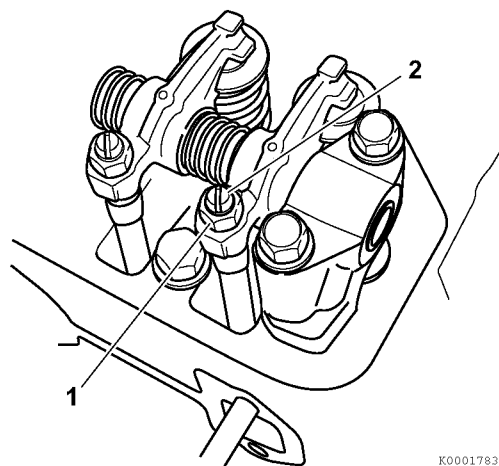
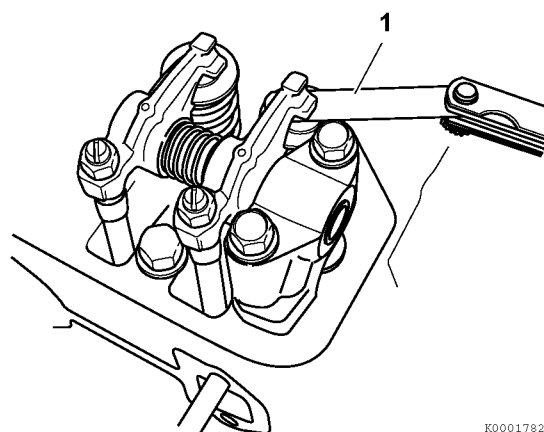

Figure 6-38
Figure 6-39
5. Loosen the valve adjusting screw lock nut (1, **Figure 6-38**) and valve adjusting screw (2, **Figure 6-38**) on the rocker arm and check the valve for inclination of the valve cap, entrance of dirt, or wear.
6. Insert a feeler gauge of the correct thickness (1, **Figure 6-39**) (see *Adjustment Specifications* on page 6-4) between the rocker arm and valve cap. Turn the valve adjustment screw to adjust the valve clearance so there is a slight “drag” on the feeler gauge when sliding it between the rocker arm and the valve cap. Hold the adjusting screw while tightening the valve adjusting screw lock nut (1, **Figure 6-38**). Recheck the clearance.